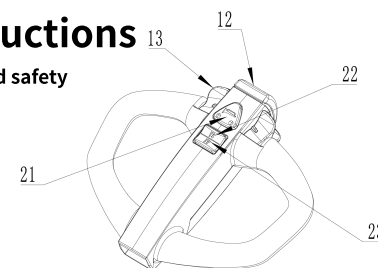
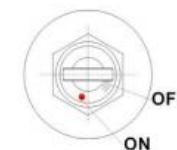
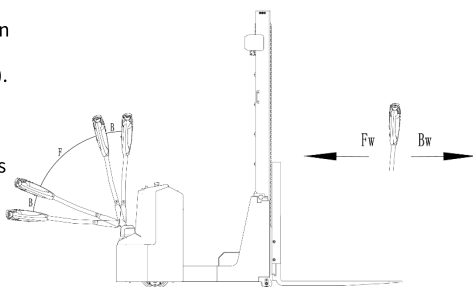

Figure 9: Handle Operation Control
Figure 10: Key Switch
Figure 13: Operating direction
Ensure that the cargo is level and stable, and perform a routine check. To begin, insert the key and turn it clockwise to the "on" position. The key can only be used on walk-controlled electric stackers. Before that, carefully pull out the emergency stop button. Press the horn button 21 (Figure 9) to activate the horn.
While driving, lower the forks fully to the legs and press the lifting button (Figure 9, 22) until it reaches your desired lifting height.
Then carefully press the lowering button (Figure 9, 23) to lower the load until the forks leave the pallet, then drive the vehicle away from the load.
Turn the inserted key to the "On" position (Figure 10; then pull out the emergency stop button) to start the vehicle, and move the handle to the operating area ('F', Figure 13). Turn the accelerator button to the desired forward direction 'Fw' or reverse direction 'Bw' (Figure 13). Control the driving speed by carefully moving the accelerator button (13, Figure 9) until the desired speed is reached.
- ⚠ Braking performance depends on road conditions and vehicle load. The braking function can be activated in the following ways (Figures 9 and 13):**
- Regenerative braking is activated by moving the accelerator button (Figures 9 and 13) back to the '0' position or releasing the button. The vehicle brakes until it stops.
- Regenerative braking is activated by moving the accelerator button (Figures 9 and 13) directly from one direction of travel to the opposite direction until it begins to move in the opposite direction.
- The belly switch (Figures 9 and 12) prevents the operator from being squeezed. If this switch is pressed, the vehicle begins to decelerate and/or begins to move in the opposite direction a short distance ('Bw.') before stopping. Consider this switch as an option to operate the vehicle if the handle is in the operating area and the vehicle is not moving.